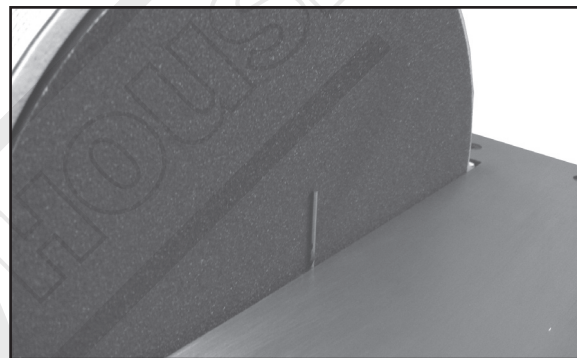

Fig. 05
4. Use a 1/16 inch drill bit as a spacer. Place the drill bit between the disc and the inside edge of the table. Hold the table against the 1/16 inch drill bit and tighten the four hex bolts. (See Fig. 05)